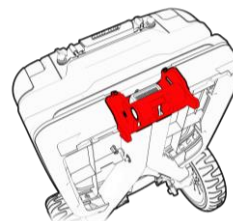

Figure 56
2. Bring the two parts together and use the hanging hooks (see Figure 56) to align the two ends properly. At this point the central release button will click.